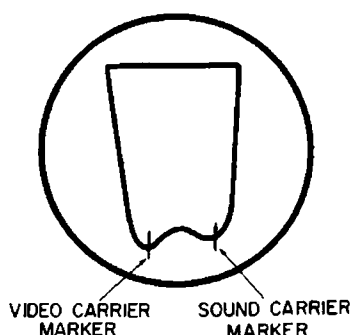

Fig. 6-4. The desired response curve.
5. After Channel 13, rough-align Channel 6 for a curve similar to Fig. 6-4. Repeat the process for Channels 5, 4, 3, and 2 in that order.